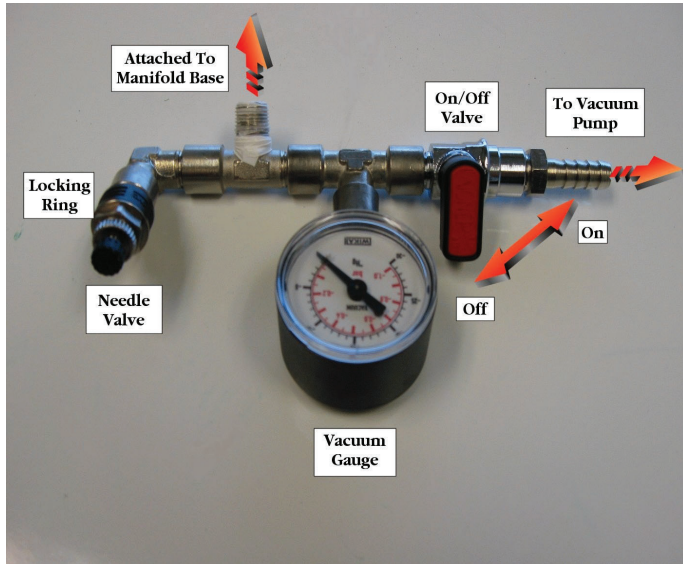

Figure 2 - Vacuum Control Apparatus
- The on/off valve opens/closes the vacuum. The valve is fully open when the tap is turned parallel to the apparatus and fully shut when the tap is perpendicular to the apparatus (valve is shown closed in Figure 2). Intermediate positions of the tap will result in a partially opened valve.